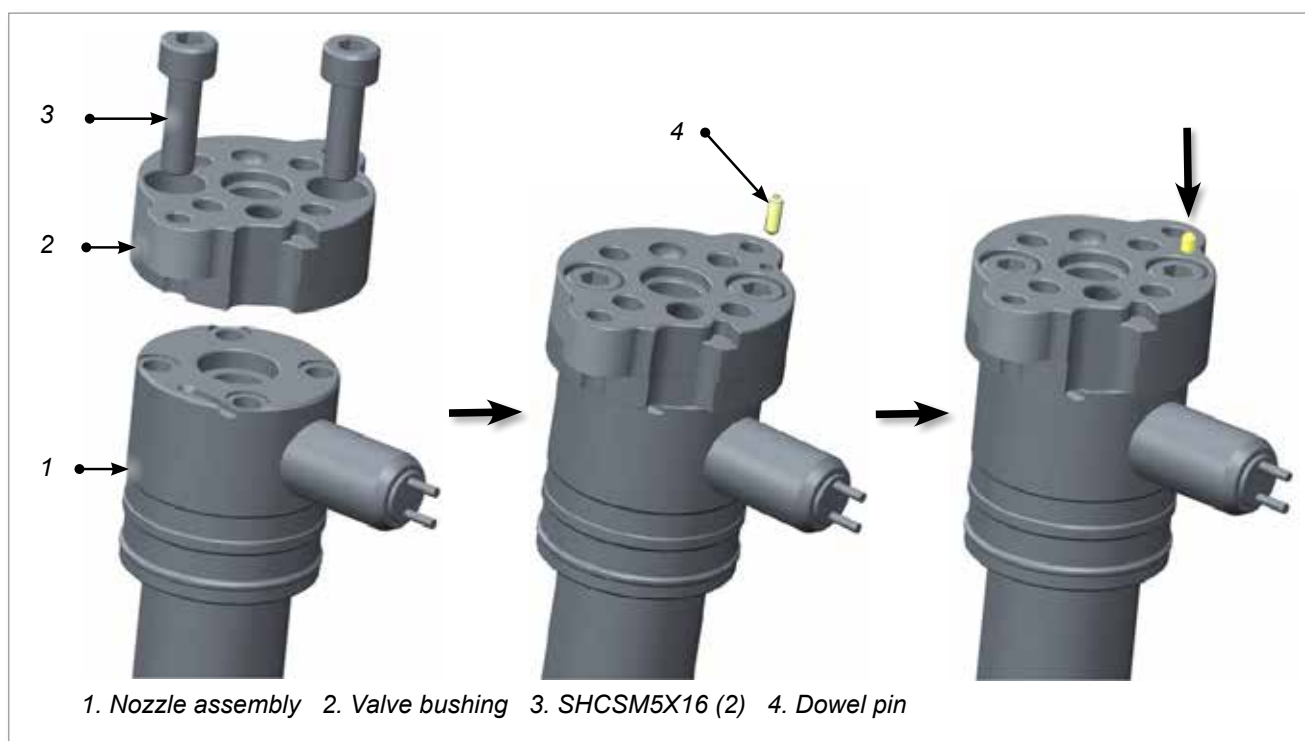

Figure 11-15 Install valve bushing
14. Insert the dowel pin into the valve bushing. See Figure 11-15.